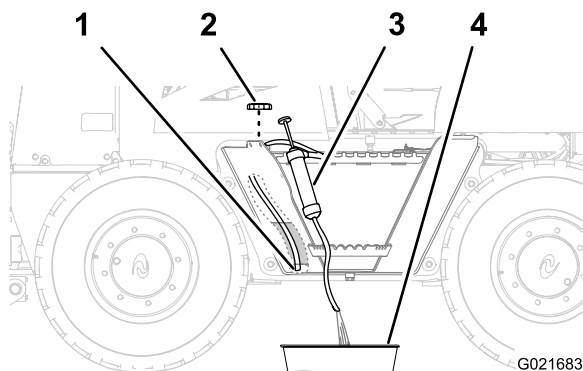

Figure 54
1. Remove the fuel cap from the fuel tank (Figure 54).
2. Route the intake hose of the siphoning equipment through the filler neck of the fuel tank and to the bottom of the tank (Figure 54).
3. Direct the discharge hose of the siphoning equipment into a drain pan (Figure 54).
6. Install the fuel cap onto the filler neck of the fuel tank (Figure 54).